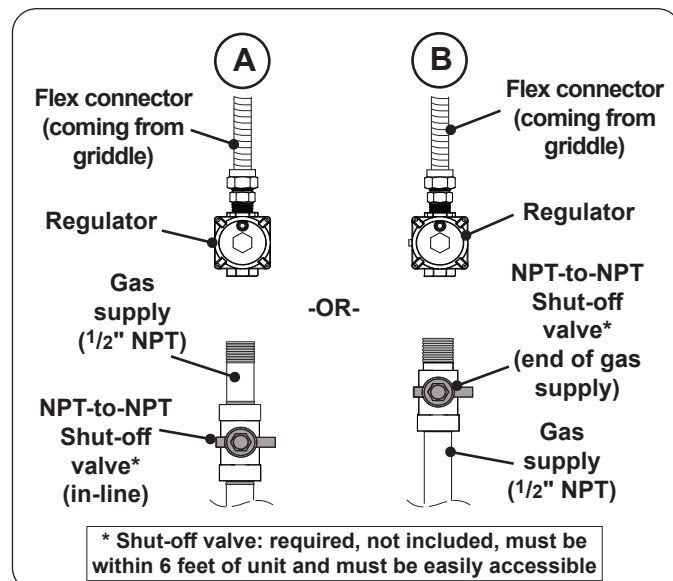

Fig. 29-1 Household propane & natural gas diagram
- Connect the regulator (on end of flex connector) to the gas supply (1/2" NPT) OR shut-off valve (1/2" NPT) using a pipe joint compound resistant to all gases (see Fig. 29-1, A or B). Tighten securely.